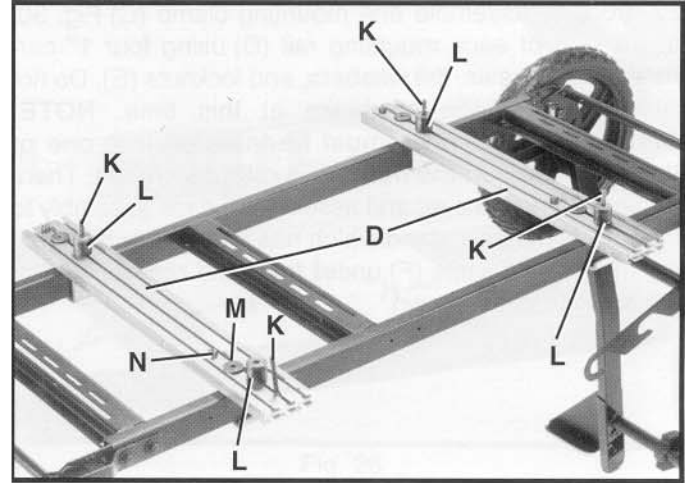
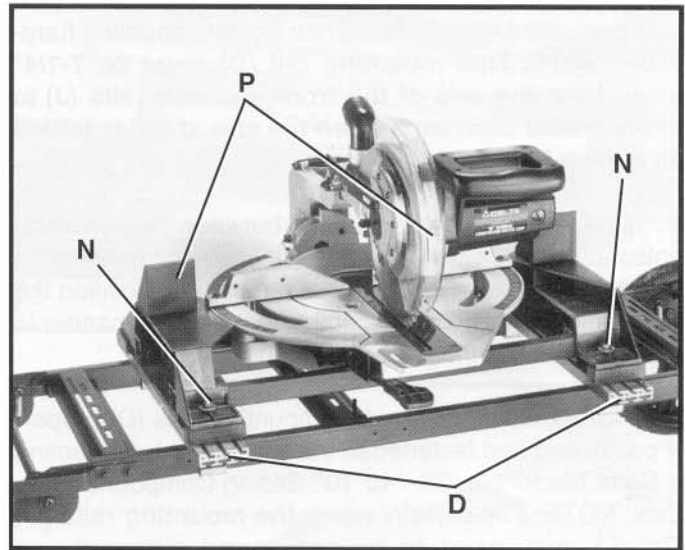

Fig. 35
Fig. 36
6. Regardless of the position of the mounting rails (D) Fig. 35, place one 2-1/4", carriage head screw (K) into each end of the mounting rails (D) as shown. **NOTE: Carriage head screws (K) must be inserted into one of the three slots in the mounting rails (D) as shown. Also, spacers (L) must be placed onto the carriage screws (K) as shown if the saw you are using is notched out for mounting the saw to a saw horse.**
7. Align the mounting holes in the miter saw base with carriage head screws (K) Fig. 35, and gently lower miter saw (P) Fig. 36, onto the mounting rails (D) so the carriage screws protrude up through mounting holes. Then center the saw base on the mounting rails (D) Fig. 35, and fasten saw to stand using the four flat washers (M) and lock nuts (N) Figs. 35 and 36. Tighten all mounting hardware at this time.
8. Fig. 36, illustrates a Delta Model No. 36-240 Sliding Compound Miter Saw properly mounted to saw stand.